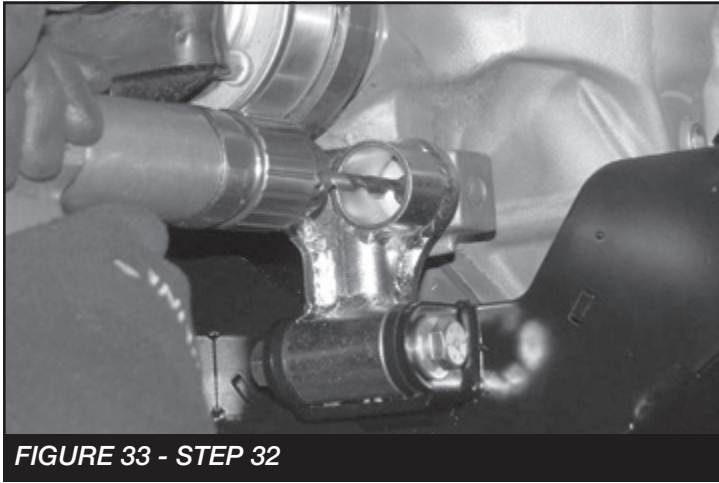

FIGURE 33 - STEP 32
32. Use the rear bracket as a drill guide to drill a 1/2" hole through the block on the rear of the diff. **SEE FIGURE 33**